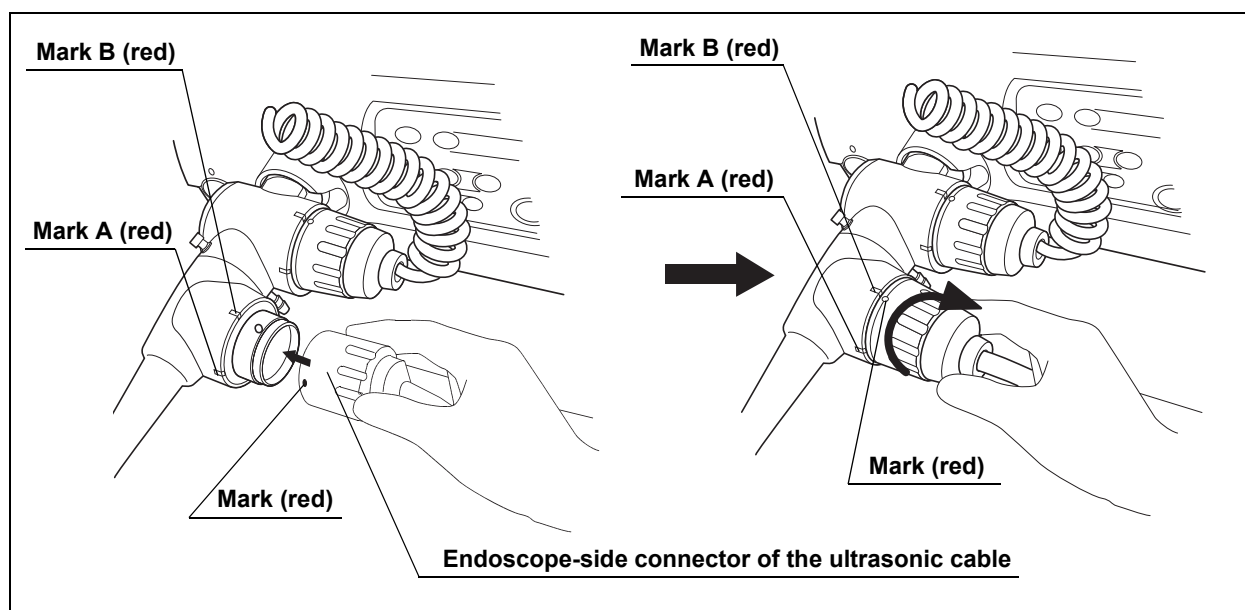

Figure 3.19
2. Align the mark on the ultrasonic cable with mark A on the ultrasound connector and push it until it stops (see Figure 3.19).
3. Turn the endoscope-side connector of the ultrasonic cable clockwise until it stops (see Figure 3.19).
4. Confirm that the mark on the ultrasonic cable is aligned with mark B on the endoscope connector (see Figure 3.19).